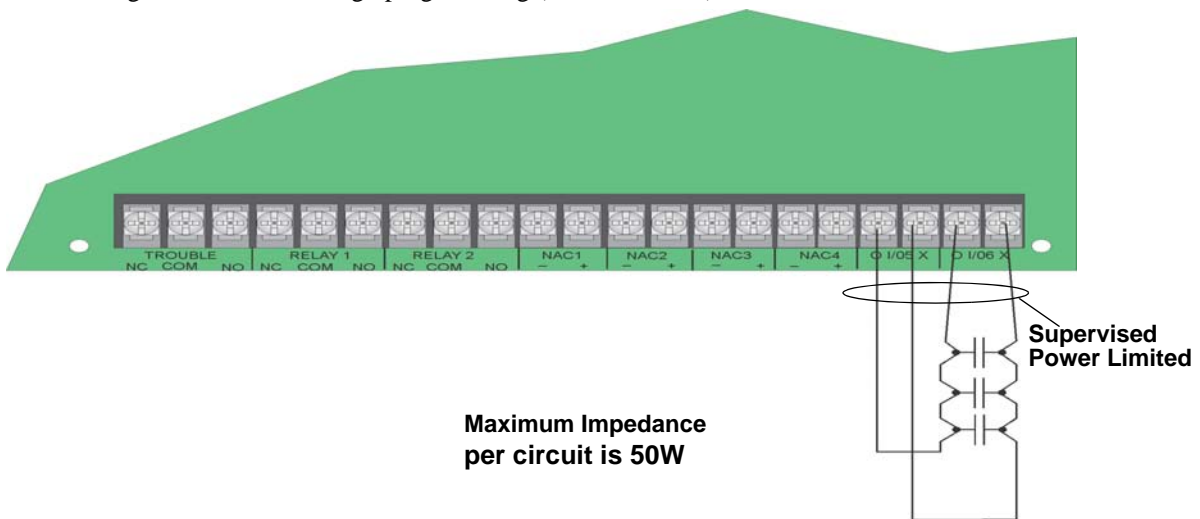

Figure 4-46 Class A initiating Switches
- Wire the Class A switch as shown in Figure 4-46.
Note: In programming any point that uses multiple Flexput circuits, the lowest Flexput circuit number is used to refer to the circuit pair. In this example, Figure 4-46 uses both Flexput circuit 5 and 6, so in programming it would be referred to as point 5.